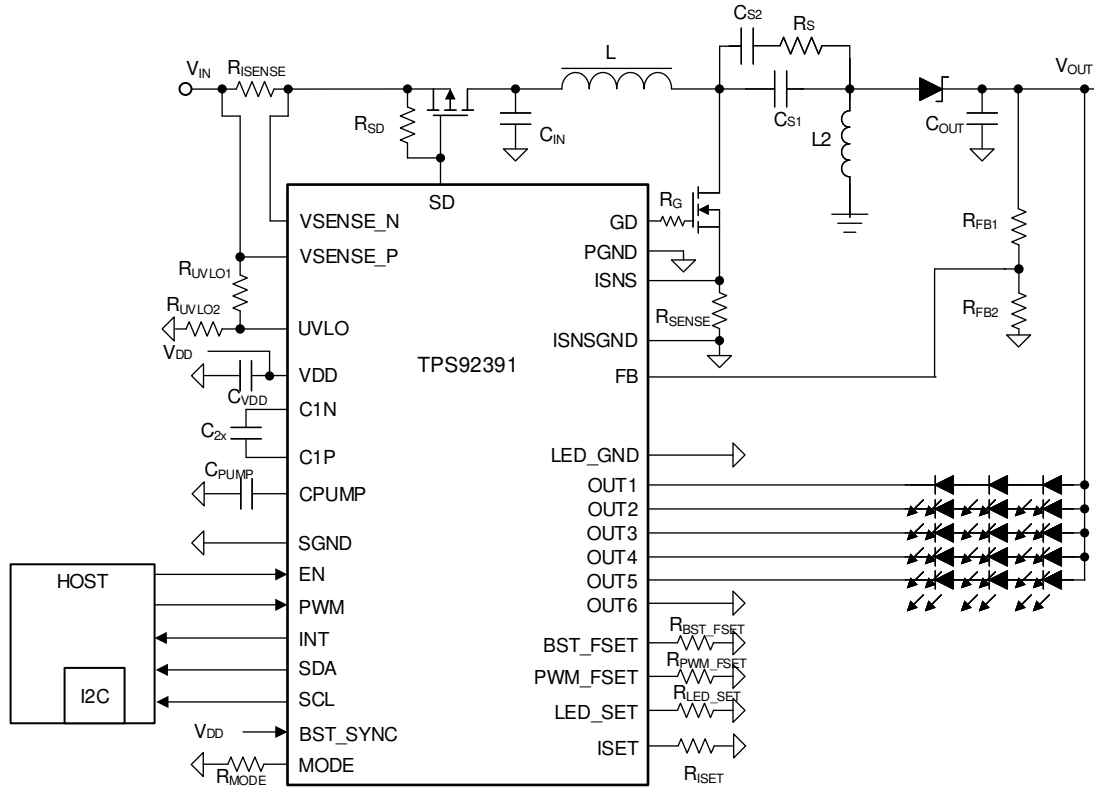

图 8-7. SEPIC Mode with Three LEDs in Series
**Figure 8-7** shows the critical part of circuitry: SEPIC components, the TPS92391 internal charge pump for gate-driver powering, and powering/grounding of TPS92391. Schematic example is shown below.